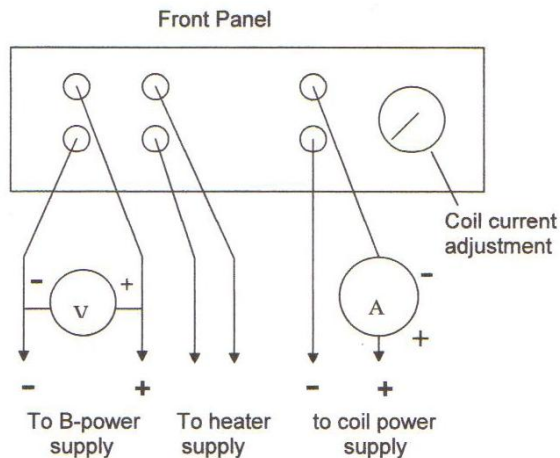

Figure 3: Wiring
- (1) Connect a 6.3V power supply to the power terminal of the heater on the main body of the unit (either AC or DC can be used).
- (2) Connect the 0 - 500V DC "B-power supply" to the "B-power" terminal of the main unit (see figure 3.).
3. Connect the power supply, voltmeter, and ammeter to the appropriate terminals of the main unit, as shown in Figure 3.